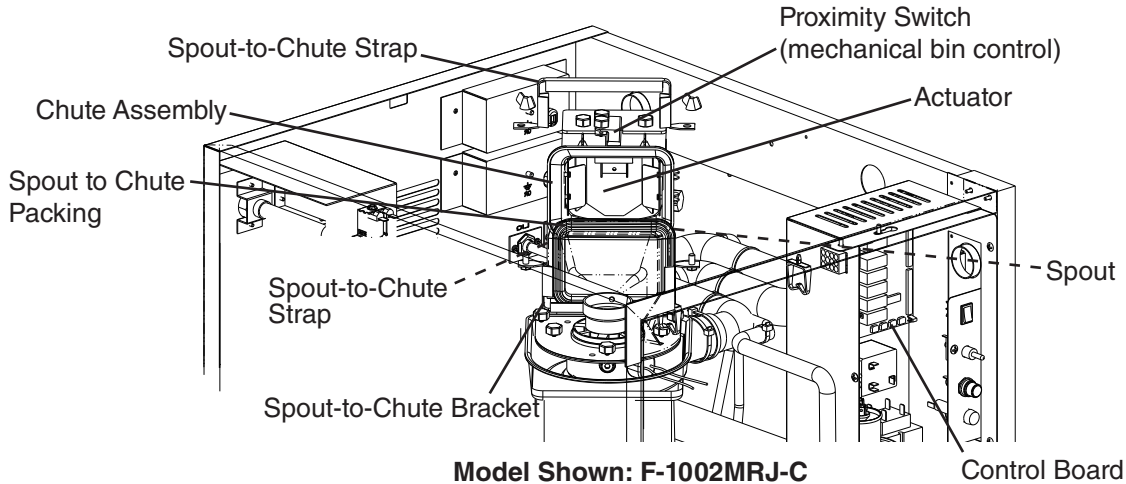

Fig. 22
- 3) Remove the spout-to-chute strap connecting the spout to the chute assembly, then remove the spout-to-chute packing, spout-to-chute bracket (if applicable), and drip guide (if applicable). See Fig. 22. Pull up the chute assembly slightly so that you can access the actuator located in the top of the chute.